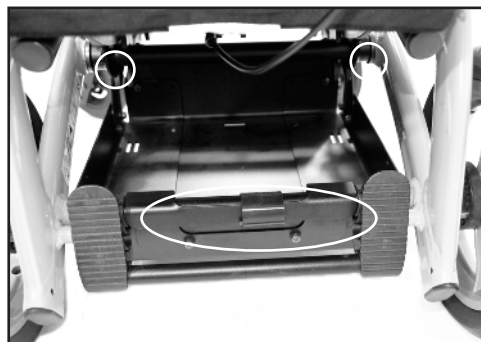

Fig. 119
3. Align the rear hook with the brake tube. Fig. 119